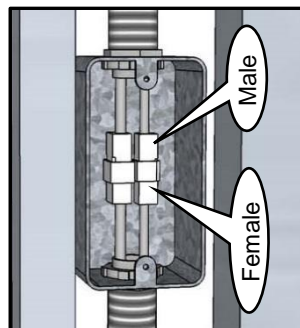

Figure 20
- 2 On 2-stop dumbwaiters, one set of wires has female connectors and the other set has male connectors. Match up each male and female connector and seat them firmly together. (see Figure 20)